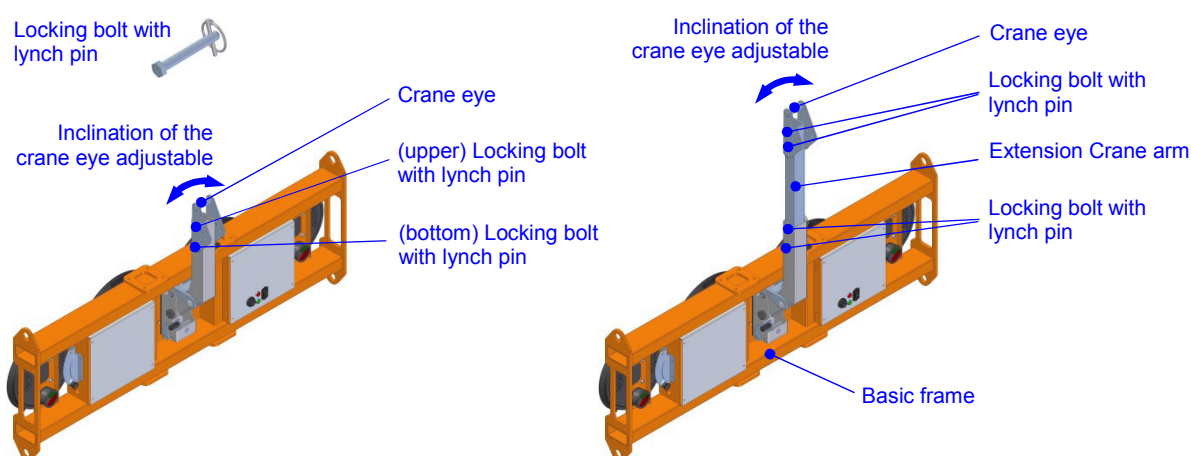

Fig. 7: Crane arm without and with extension
- Remove the upper locking bolt with lynch pin (see fig. 7).
- Mount the crane eye to the "Extension crane arm" using two locking bolts with lynch pin (see fig. 7).